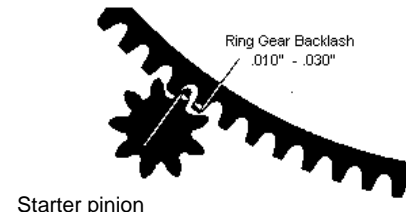

Figure 1
7. Check ring gear clearance and backlash (figures 1 and 2). Add shims to starter if necessary to obtain proper clearance.
Checking Backlash To check the backlash, simply pull pinion as to engage. You should have .010" to .030" clearance between ring gear and pinion gear. (See figure 1)